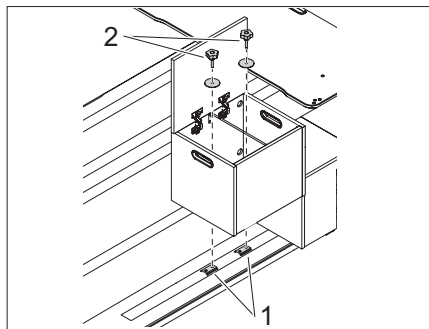

Fig. 46 Fit the storage box
- Place the storage box over the threaded plates (Fig. 46,1) in the rail.
- Guide the star screws (Fig. 46,2) with washers through the storage box and screw them into the threaded plates (Fig. 46,1).